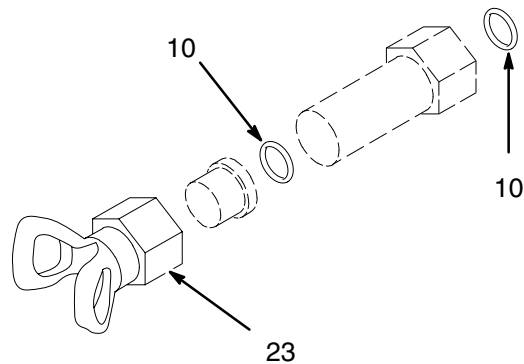

Fig. 2
4. With the gun safety latch engaged, unscrew the tip guard (23) and install the tip and gasket (51) in the back of the tip guard. Screw the assembly firmly onto the mixer. Install o-ring (10) into nut of the mixer. Screw and assemble firmly onto the gun. Tighten both connections with a wrench. See Figure 2.